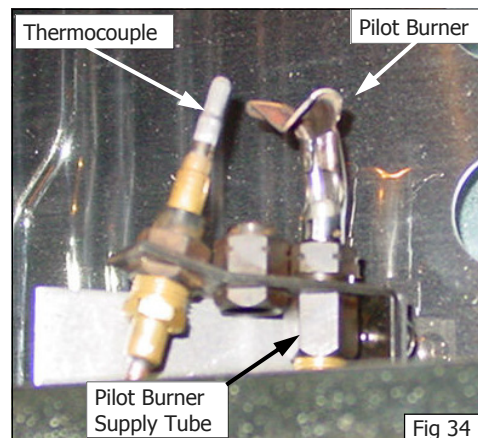

Fig 34
- b. From inside the oven, unscrew the hex nut holding the pilot supply tube to the rear of the pilot burner. (Refer to Fig 34).
- d. Replace the pilot injector with the correct sized pilot injector for the gas type being used (Refer to the 'Gas Specifications' table at the rear of this section).and re-connect the pilot supply tube to the rear of the pilot burner. (Refer to Fig 34).